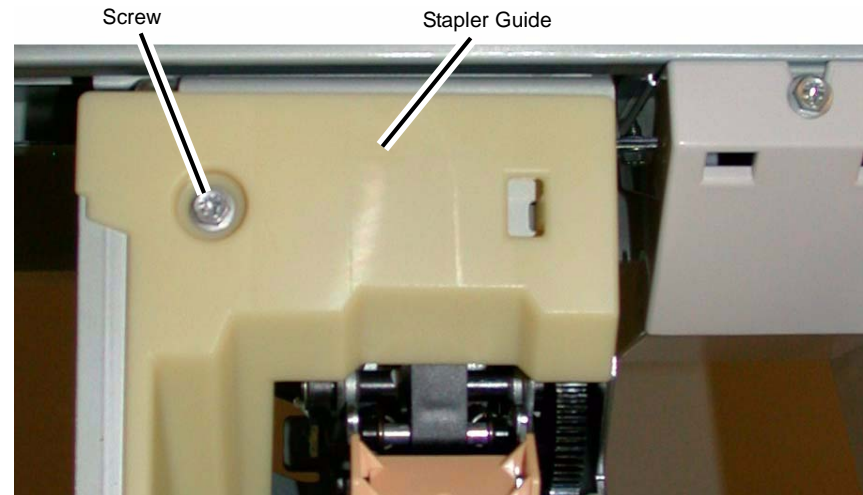

Figure 1 Removing the Stapler Guide
3. Remove the Stapler Guide (Figure 1).